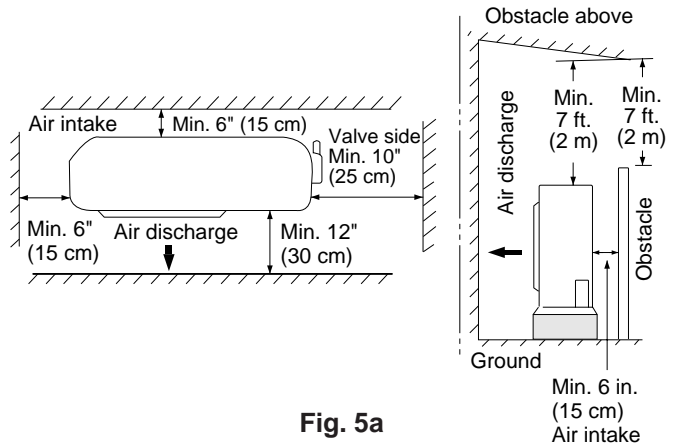

Fig. 5a
- allow enough room around the unit for air intake/exhaust and possible maintenance. (Fig. 5a)